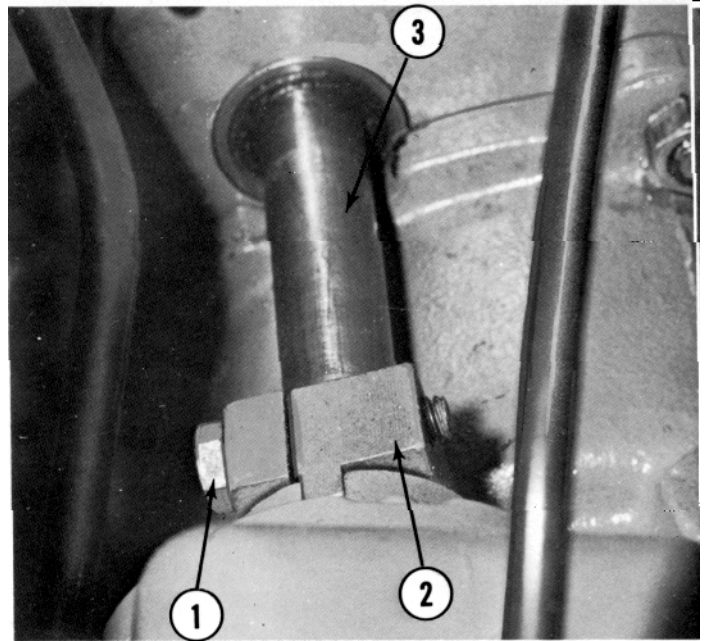

Figure 9
1. Loosen magneto coupling nut (1, Figure 9) until the coupling slips on the camshaft. It may be necessary to tap the coupling gently.
6. Be sure that there is at least .015 inch (.397mm.) end play in the magneto coupling so it will not cramp the impulse. Use feeler gauge between the fiber block (2, Figure 9) before tightening nut. Tighten nut.